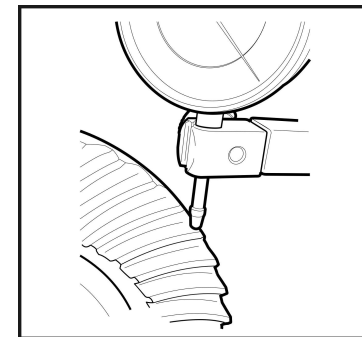

Fig. 3
- 1.8 Install a dial indicator. Secure the indicator holder to the outside of the axle housing and position the dial indicator tip perpendicular to a tooth of the ring gear. (Fig. 3)